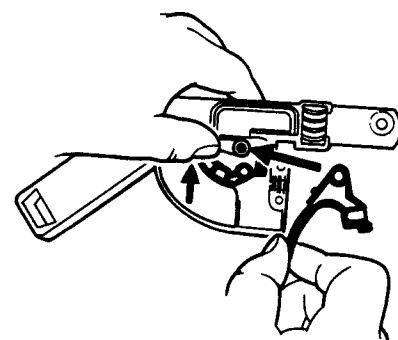

FIG 46
3. If fitted with throttle trigger torsion spring, place torsion spring over post and hold back with thumb (Fig 46). Fit throttle trigger fully over post and release spring so it catches throttle trigger (Fig 46).